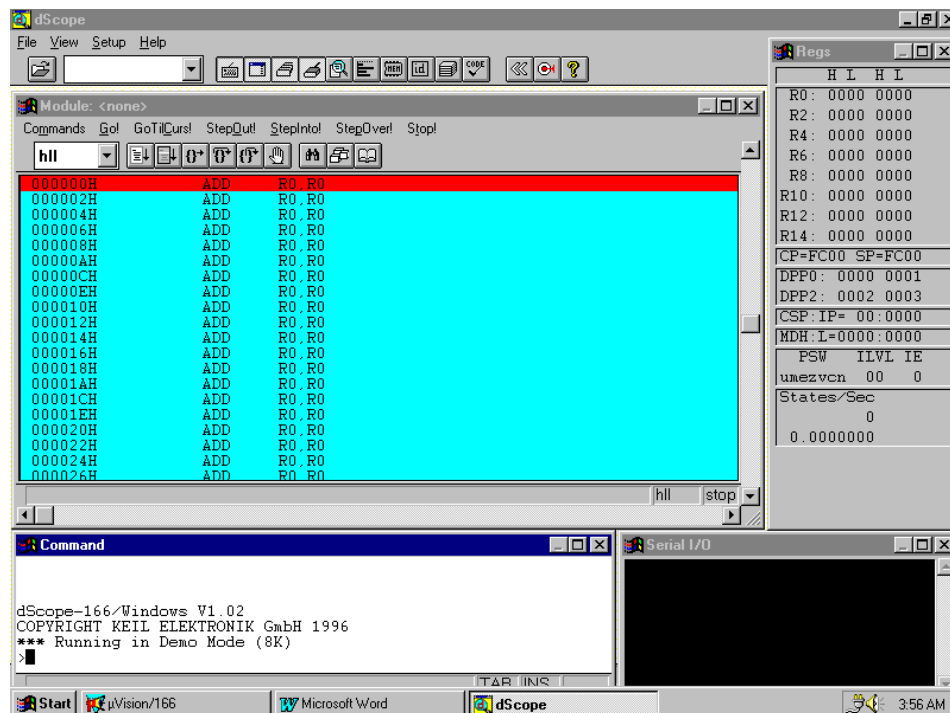

FIGURE 4
- 2) Click on the debugger icon on the μ Vision toolbar. This icon is a “d” seen through a magnifying glass and is yellow and blue in colour. This is the same icon installed for dScope in your desktop area. If you leave the mouse pointer on an icon for a few seconds, the word “debug” will appear. A window similar to that shown in Figure 4 is displayed. You may want to move and resize the windows. The window marked “Module: <none>” is the Debug window. The Command window can be used to enter commands.
- 3) You may need to open, resize and /or move some windows to make your screen look something like Figure 4. The Debug, Command, and Serial I/O windows will be used. You may want to open the Commands menu in the Debug Window and select Show Toolbar.